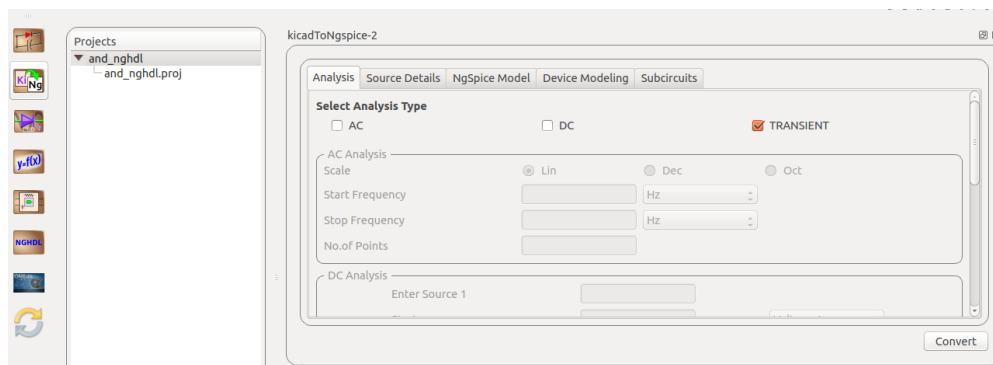
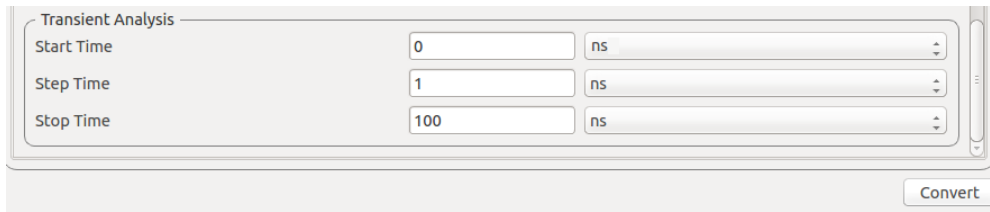

Figure 9.11: Analysis Part I
Figure 9.12: Analysis Part II
- After creating the schematic, click on **KiCad-to-Ngspice converter** and select the type of analysis as transient as shown in Fig. 9.11 and set the start, step and stop time as shown in Fig. 9.12